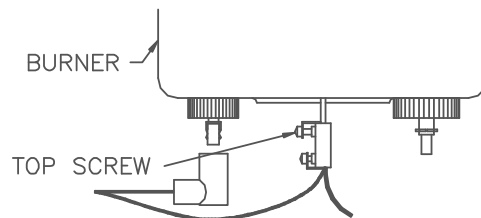

Figure 6.10
6. Remove the grounding terminal from the burner by loosening the upper screw and sliding the connector from the grounding rod, (See Fig. 6.10).